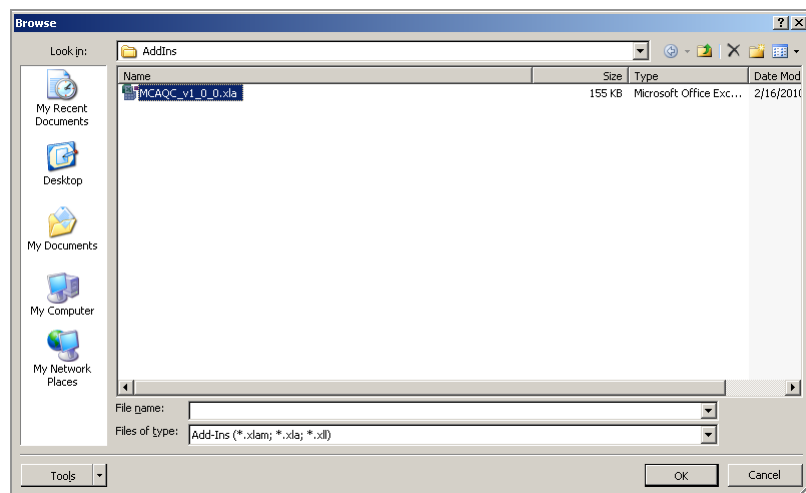

Figure 109 Browse to MCAQC\_v1\_0\_0.xla File
- Excel opens the Add-Ins folder from the C: drive. The MCAQC\_v1\_0\_0.xla file should be in the folder. Select the file and click **OK** (Figure 109).